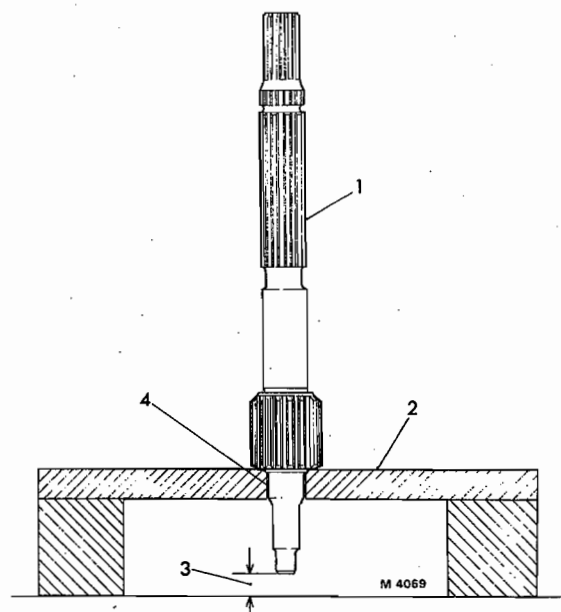
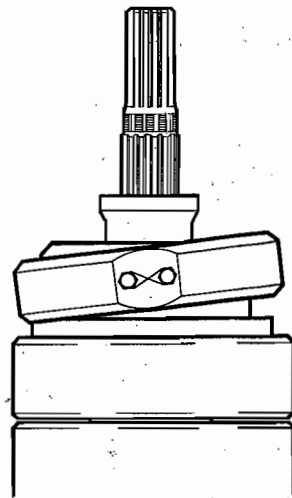

FIG. 17 THE INPUT SHAFT IN A SUITABLE STAND
FIG. 20 CLUTCH SLIDING PANEL IN POSITION
1. Remove the reverse speed annulus (30) and intermediate bearing (49).
2. Remove the bush (50).
3. Remove the sub-assembly of the reverse speed gear train (34), reverse speed sun wheel (36), bushes (51 and 53), and bush (54).
4. Remove the 1st speed annulus (28) and bush (55).
5. Remove the sub-assembly of the 1st speed gear train (29) and the bush (57).
6. Remove the sub-assembly of the 2nd speed gear train (25) which comprises the output shaft (44) and the 2nd speed planets.
7. Remove the adjusting washer (59).
8. Reverse the input shaft assembly on to a suitable stand having a hole drilled through which the spigot can pass, Fig. 17. The stand should be high enough to allow clearance between the shaft and the floor.
9. Remove the ring nut (100).
10. Remove the clutch housing (1) complete with top speed piston assembly, collar (4), bearing housing (81) and bearing (80).
11. Slide off the spacer (6).
12. Release the spring clip (79) and remove the sub-assembly of the clutch sliding panel (11) and the trunnion ring (10).
13. Examine the pivot pin face (8) for wear. Any wear will allow the trunnion ring to move away from the multi-plate clutches and cause the top speed piston to travel further before a successful gear change is made. A point will be reached therefore, when the top speed clutch will cease to operate.
15. Remove the inner and outer clutch plates (14), (16) the clutch inner member and split-ring.
16. Remove the sub-assembly of the 4th speed sun wheel (22), the 4th speed brake drum (17) and the bush (61).
17. Remove the sub-assembly of the 4th speed gear train (21) 3rd speed annulus (20) and 4th speed planets, together with the bushes (18).
18. Remove sub-assembly of 3rd speed gear train (23) which comprises the 4th speed annulus (19) 3rd speed planets and 2nd speed annulus (24).
1. Place the input shaft (95) in a suitable stand, Fig. 17 and fit the bush (18).
2. Fit sub-assembly of 3rd speed gear train which comprises the 4th speed annulus (19), 3rd speed planets and 2nd speed annulus (24). Fit bush (61).
3. Fit the sub-assembly of the 4th speed gear train (21) which comprises the 3rd speed annulus and the 4th speed planets. Fit the bush (61).
4. Fit the sub-assembly of the 4th speed sun wheel (22) and the 4th speed brake drum (17). Fit the bushes (61) and (18).
5. Fit the split ring, the sub-assembly of the clutch inner member and position the inner and outer clutch plates (14) and (16) alternately. It is advisable to smear the faces of the clutch plates with oil to prevent initial sticking.
6. Fit the clutch springs (62) and insert a pin (63) into each spring.
7. Smear light oil on the input shaft (95) and fit the sub-assembly of the clutch sliding panel (11) and trunnion ring (10), Fig. 20. Press the assembly down and insert the spring clip (79). **Note:** The bearing (9) on the clutch sliding panel is of the angular contact type, and if the bearing has been removed it must be reassembled in the position shown.
9. Fit the spacer (6).
10. Fit the bearing housing (81) and press the bearing collar (4) into the bearing (80). Slide the sub-assembly onto the input shaft.